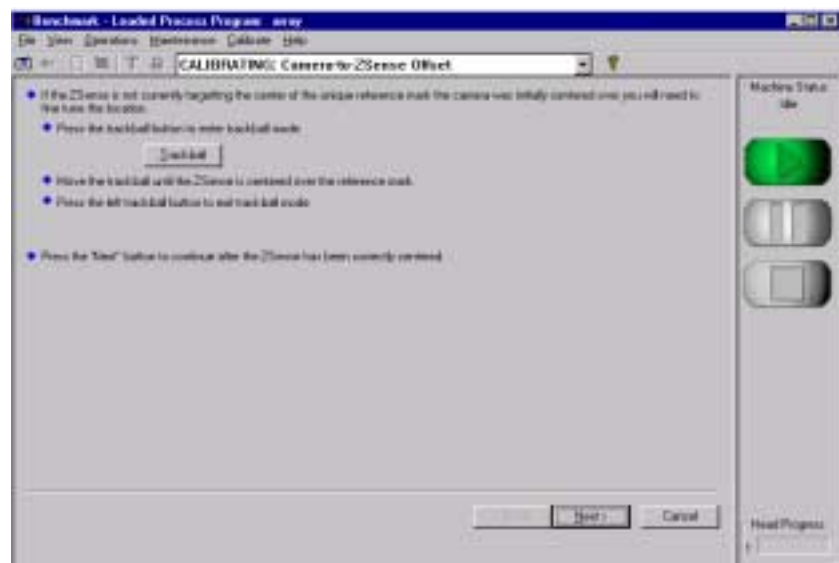

Figure 6-29
- a. Select the **T**rackball button in the **Camera-to-ZSense Offset** screen. See Figure 6-29.